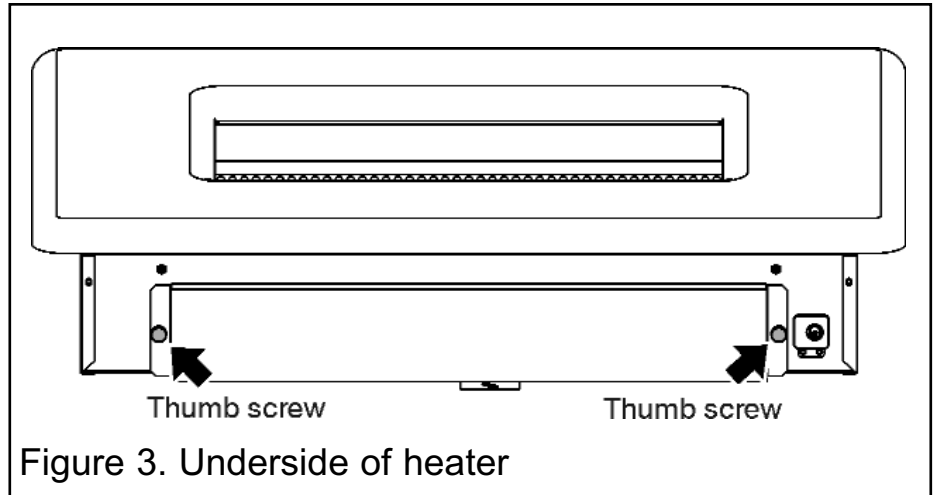

Figure 3. Underside of heater
- On the base of the heater are two thumbscrews (See figure 3). Unscrew and remove the thumbscrews and light baffle.
- At the base of the heater are two thumb screws (See figure 3) that secure the light baffle. To gain access to the lamps unscrew the thumb screws and remove the light baffle.